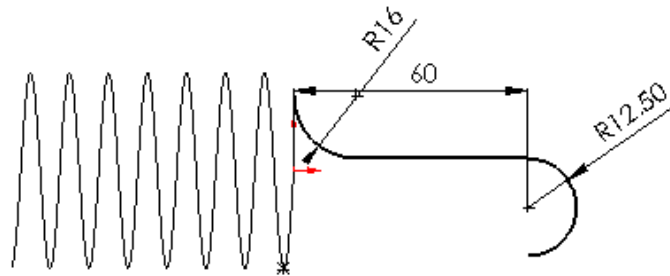

Figure 9-121 Second sketch of right end-clip
9. Create the sketch as shown in Figure 9-121. You need to apply the **Pierce** relation between the helical curve and the end point of left arc of the sketch.
10. Add a **Tangent** and **Coincident** relation between the left arc of the sketch and the sketch created previously. Add the required relations and dimensions to the sketch. Sketch after applying all the relations and dimensions is shown in Figure 9-121.